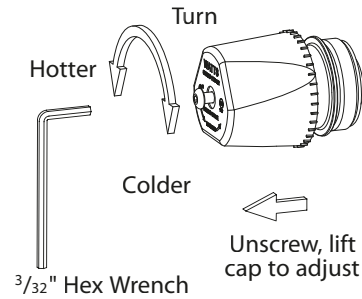

Figure 9.5 - Temperature Adjustment
3. To adjust the setting of the valve, loosen locking cap with hex wrench, see figure 9.5. Cap must be lifted 1/4" to adjust temperature. To increase the temperature, turn counterclockwise. To decrease temperature, turn clockwise.